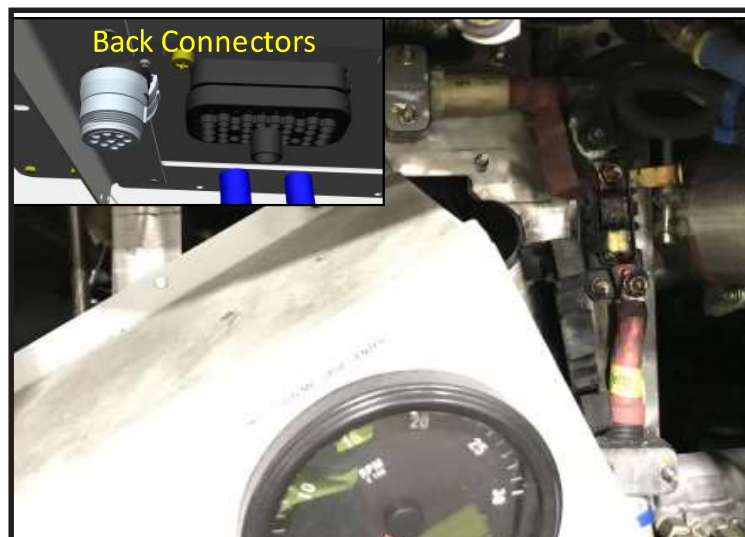

Figure 7 - Engine Box Removal
- 1.10. Carefully remove the engine box from the mounting studs and then disconnect the two connectors at the back (see figure 7).